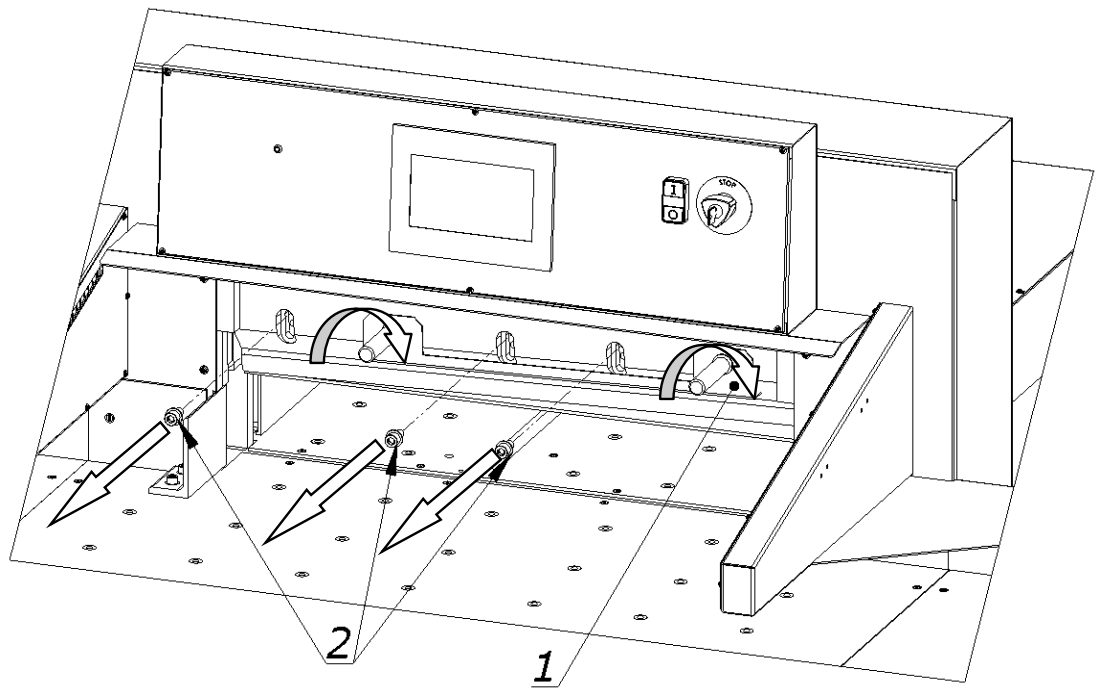

Figure 26.
8.1.1.10 Unscrew and remove the screws 2 (fig.26)